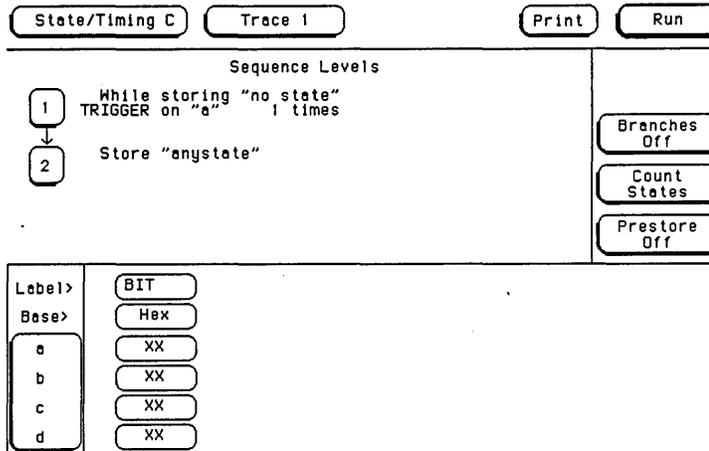

Figure 3-19. Trace Screen
5. Set the Trace screen without sequencing levels and set **Count** to **States** as shown in figure 3-19. Refer to a and b if unfamiliar with the menus.